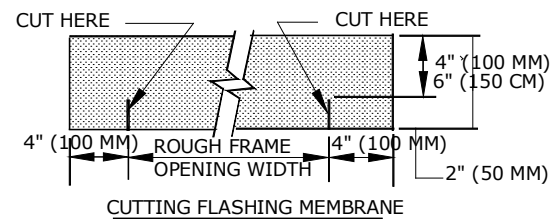

Fig. 9.2
- Cut a strip of self-adhering flashing to a width of 12 in. (30 cm) and a length equal to that of the rough opening width plus 8 in. (20 cm). Make two 2 in. (5 cm) long cuts into flashing even with jambs (Fig. 9.2).